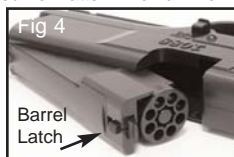

Fig 4
- Press barrel latch button toward the front sight until the barrel pops open (fig. 4). DO NOT PULL THE BARREL UPWARD BEYOND THIS POINT. This could damage your airgun.